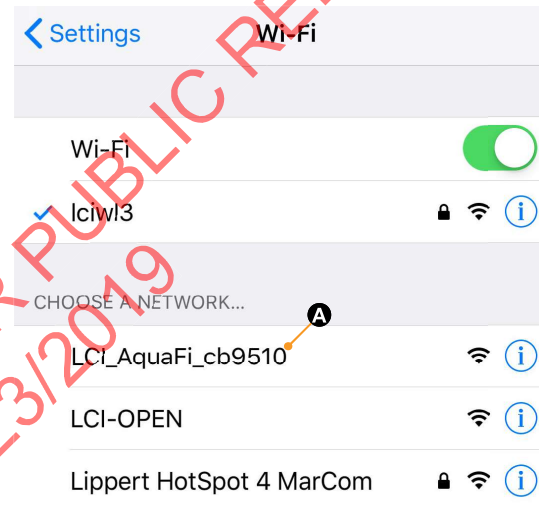

Fig.6
3. Go to Wi-Fi settings on the mobile device (Fig.6), then select the hotspot's AquaFi SSID (Fig.6A) from the list of available wireless networks.